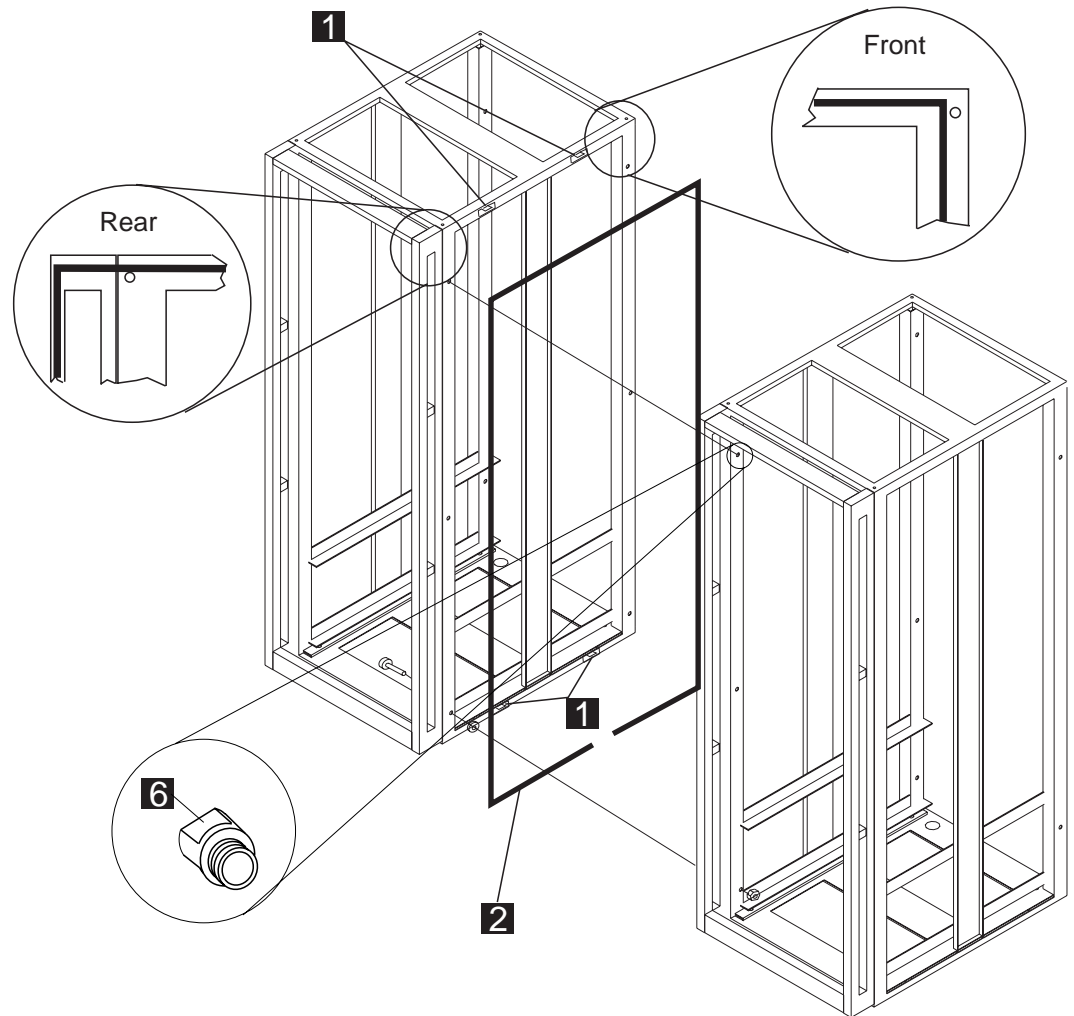

Figure 3-1. Attaching the 2220-501 Frame to the 2220-500 Frame (37 U Rack)
3. \_\_\_\_ Remove the four brackets **1** (see Figure 3-1 on page 3-3).
6. \_\_\_\_ Move the 2220-501 close to the 2220-500 frame (see Figure 3-1 on page 3-3), and then using an adjustable wrench, make a leveling pad adjustment.